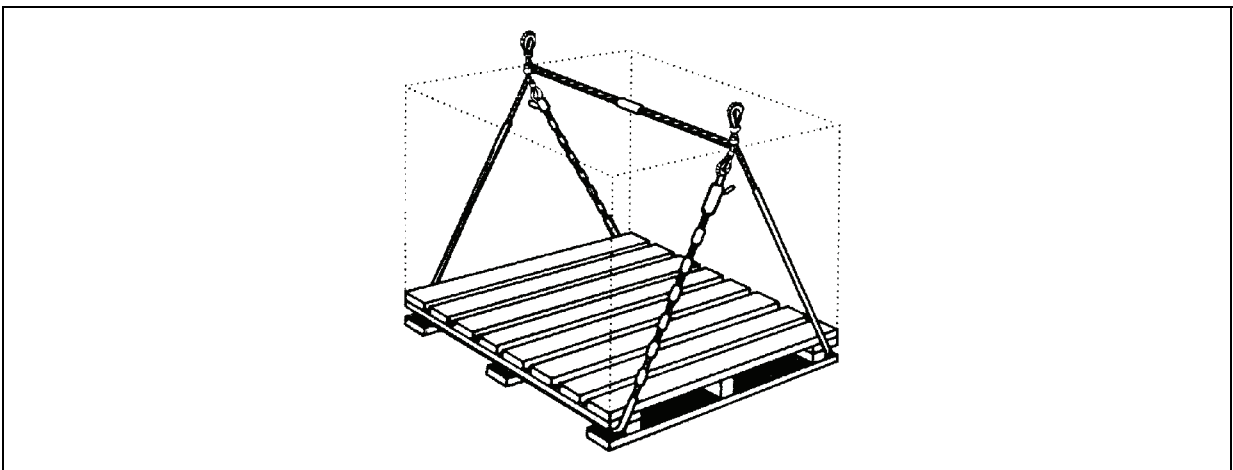

Figure 9-4. Pallet Sling
- **Pallet Sling.** The pallet sling is a two-loop wire rope sling used to lift loaded pallets without using a cargo net (Figure 9-4). Lifting eyes provide the attachment points for the hoisting sling used to carry the load by helicopter. There are four models of this sling; each model accommodates a different size load and a color-coded tube on the cable between the two lifting eyes indicates the sling size (Table 9-1).
- **Pallet Assembly (Figure 9-4).** In assembling loads to be moved on pallets, the following rules apply: